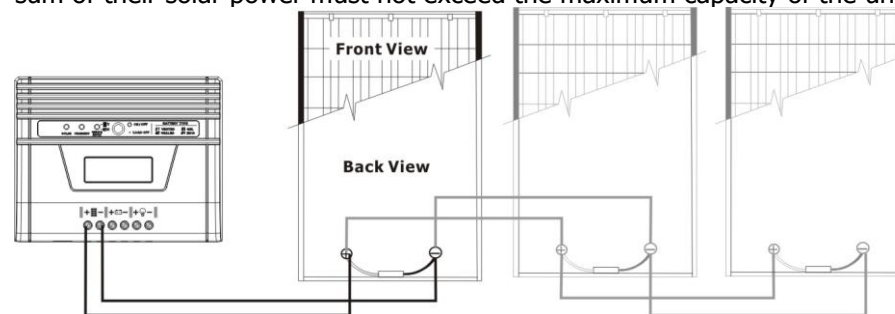

Fig. 9
- 3) Multiple solar modules in parallel connection (Refer to Fig. 9):** Each module's voltage must be equal to the Nominal DC Voltage of the unit. And, the sum of their solar power must not exceed the maximum capacity of the unit.